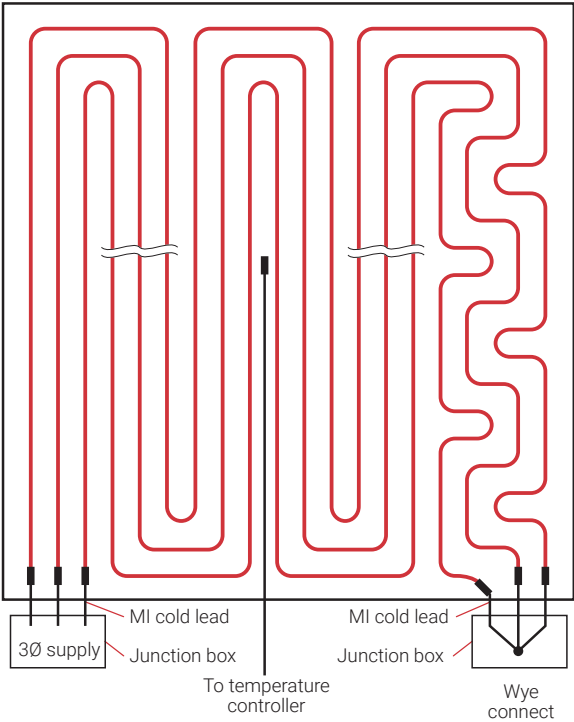

Figure 24: Typical layout for three-phase Wye connected cables
2. Install the junction boxes (see Section 4 for details). For single-phase circuits using Design B cables (see Section 1.9), the cable layout should begin and end at the junction box to allow both cold leads to be connected to the junction box (Figure 23). For three-phase circuits where the heating cables are Wye connected to the power supply, the junction boxes may be located at opposite ends of the freezer as shown in Figure 24. Refer to the design drawings for exact junction box locations.